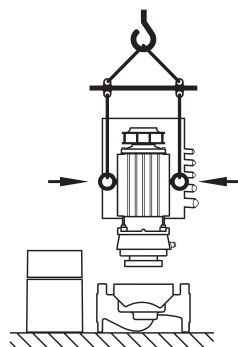

Fig. 25: Transporting the motor impeller unit
- If the transport eyes have been moved from the motor flange and installed at the motor housing, they are only approved for carrying or transporting the motor impeller unit (Fig. 25) and not for transport of the whole pump or for separation of the motor impeller unit